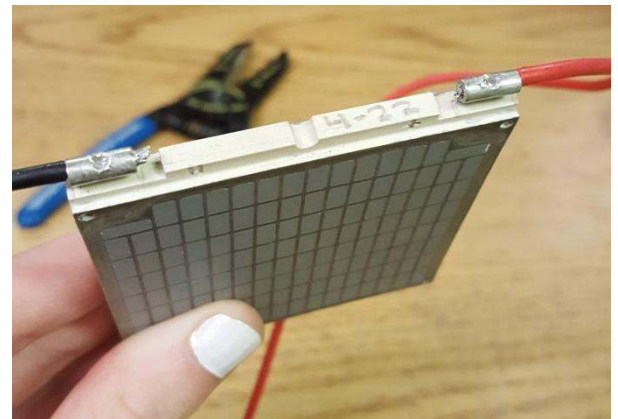

Figure 2: Module with soldered lead wires
4. Solder the lead wires inside the terminals as shown in **Figure 2**. Make sure that they are attached securely. Do not use alligator clips. Wires attached with solder have the lowest resistance and will provide the best results.